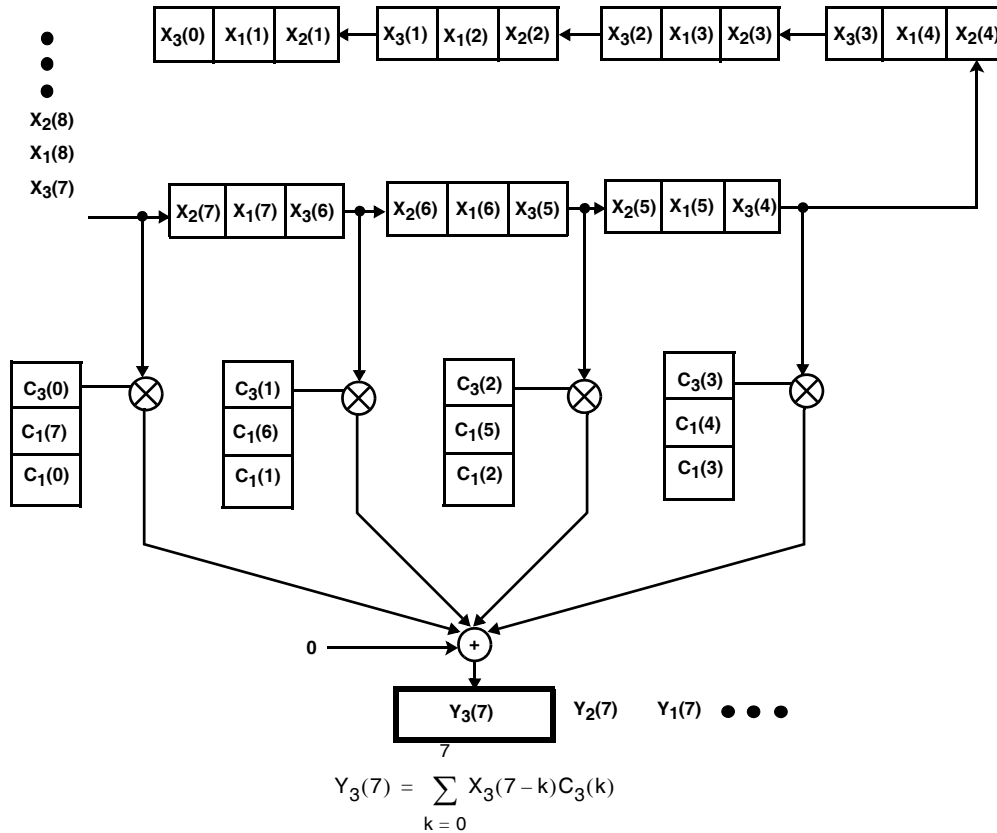

FIGURE 6. DOUBLE-CLOCKED ASYMMETRIC MULTI-CHANNEL DATA FLOW DIAGRAM STEP 6
- When the delay registers are set by the decimation factor, odd tap length symmetric filter lengths may no longer be implemented. Refer to Figure 6 on p.3-27 of [1] for an odd symmetric filter implementation; it can be seen that delay between the forward and reverse paths will cause the input data for the center coefficient to be misaligned.